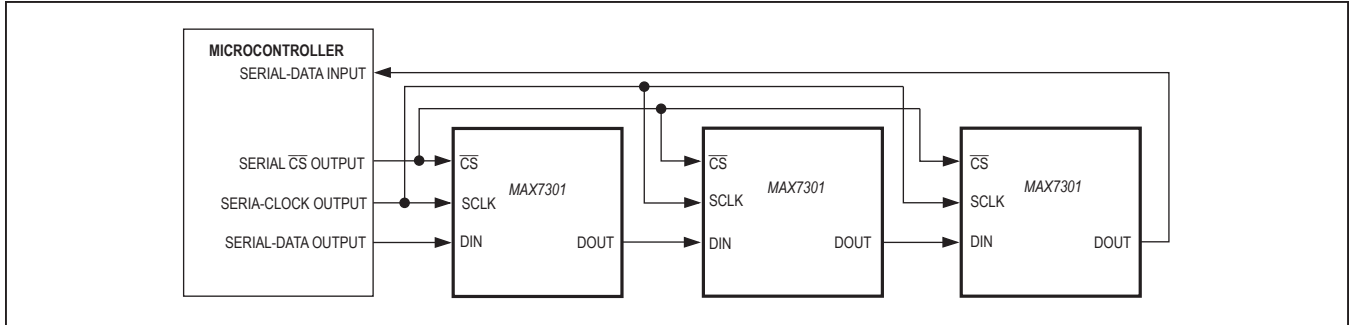

Figure 3. Daisy-Chain Arrangement for Controlling Multiple MAX7301s
**Timing Characteristics (Figure 3)**(V+ = 2.5V to 5.5V, TA = TMIN to TMAX, unless otherwise noted.) (Note 1)
Multiple MAX7301s may be daisy-chained by connecting the DOUT of one device to the DIN of the next, and driving SCLK and  $\overline{CS}$  lines in parallel (Figure 3). Data at DIN propagates through the internal shift registers and appears at DOUT 15.5 clock cycles later, clocked out on the falling edge of SCLK. When sending commands to multiple MAX7301s, all devices are accessed at the same time. An access requires  $(16 \times n)$  clock cycles, where n is the number of MAX7301s connected together. To update just one device in a daisy-chain, the user can send the No-Op command (0x00) to the others.